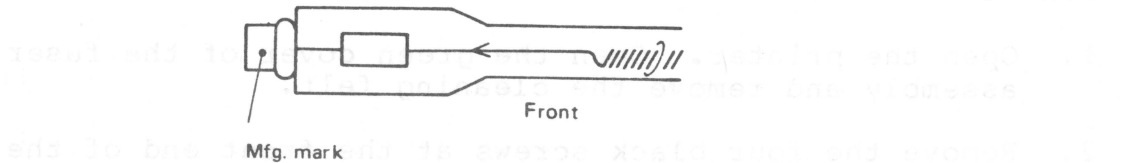

Figure 2-11
1. Holding the bulb by the end with the manufacturer's name (see Figure 2-11), insert it into the roller tube. Make sure that the leading end is seated on the small copper electrode at the far end of the assembly.